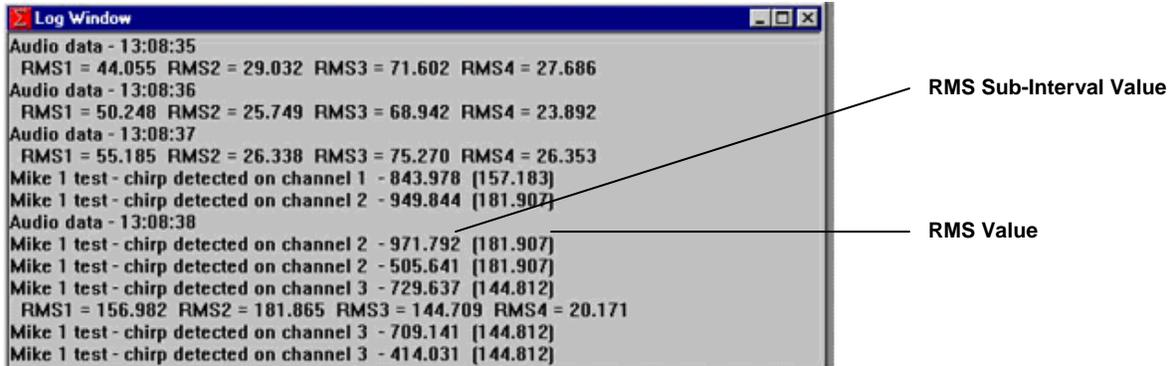

Figure 9-10 - Microphone Test Results
- Review the test results in the Log Window as illustrated in *Figure 9-10 - Microphone Test Results*. The first number listed is the RMS value computed for a sub-interval. The number in parentheses “( )” is the RMS for the entire data record (1 second). A successful test should show results similar to the following: